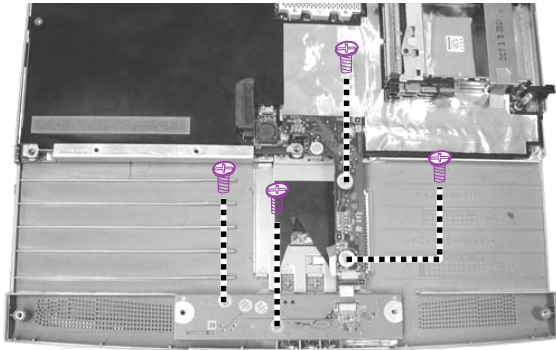

Figure 2-30
8. Remove four screws to take the recharge board apart. (figure 2-30)